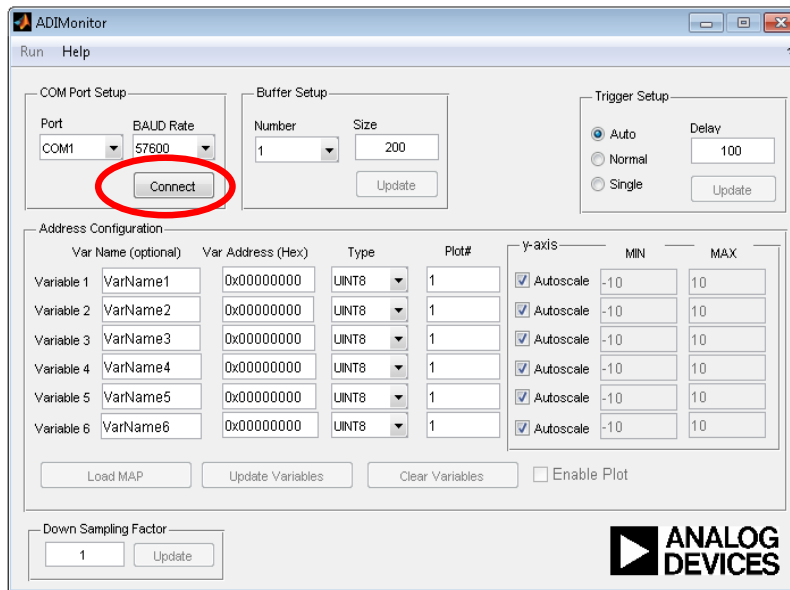

Figure 12 ADIMonitor, parameter pane.
4. In the parameter pane of ADIMonitor, open COM port by clicking Connect, see Figure 12. The target is running at 57600baud (default value). If you do not know the number of the COM port go to Device Manager on the PC.